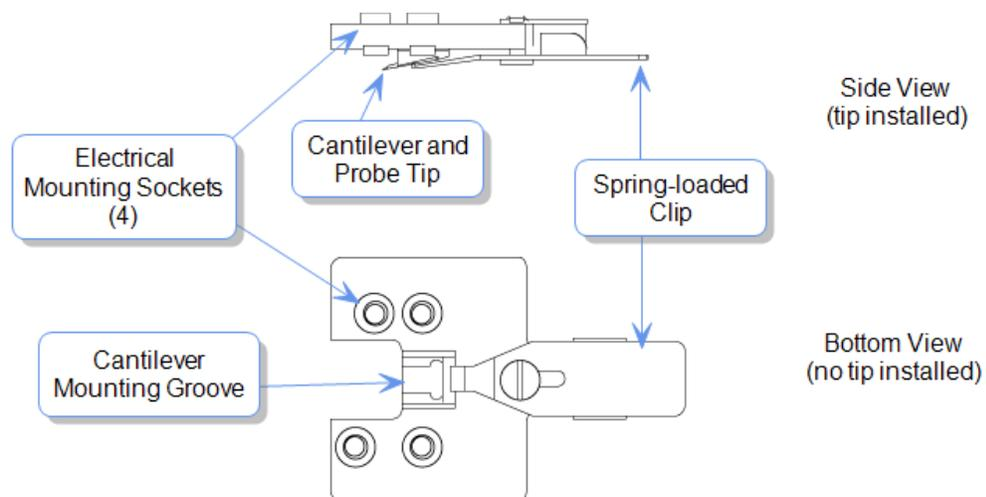

Figure 3. Schematic of the probe holder for the Dimension Icon head.
- b) Place a conductive probe in the cantilever mounting groove on the probe holder and secure it with the spring-loaded clip (Figure 3). Ensure the probe is parallel to and roughly equidistant from all edges. Confirm the probe is not touching the back of the groove by observing it under an optical microscope. Gently adjust the probe as necessary with a pair of tweezers.